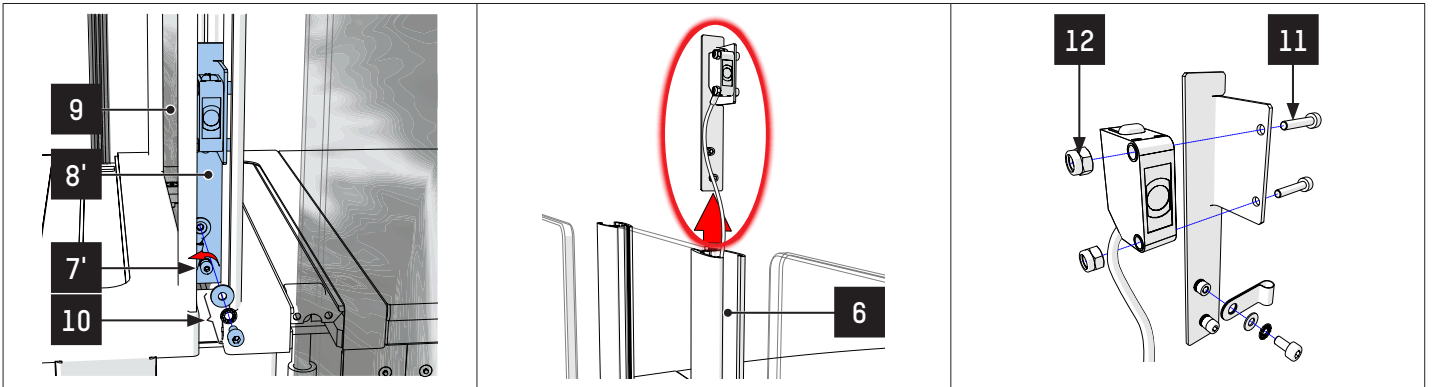

Fig. 90 - Removing the REFLEX cell
**For a REFLEX cell:** (⇒ Fig. 90)
4. Without unscrewing it, loosen the pressure screw (7') of the cell support (8') so as to disconnect the cell assembly from the fixed obstacle (9);
6. Remove the fixing elements (10) of the ground cable on the cell support;
7. Remove the cell support assembly by sliding it upwards into the aluminium profile (6).
8. Remove the two (2) fixing screws (11) and lock nuts (12) to remove the cell;